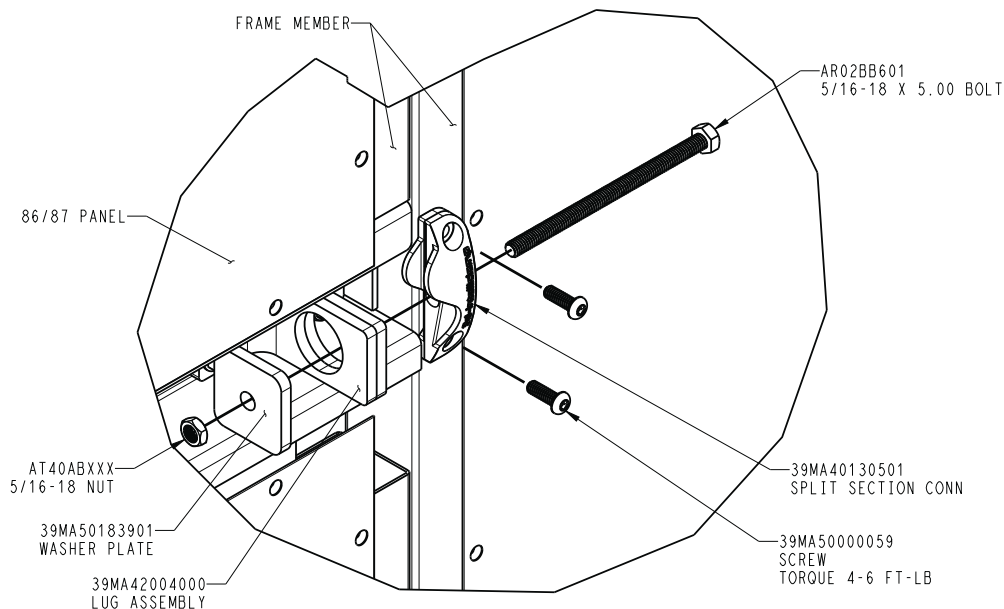

Fig. 173 — Secure ERV Wheel on 3 in. Baserail
9. Secure the ERV wheel section 3 in. baserail to the return air module frame Intelliclamp connector as shown in Fig. 173.
12. Secure the upper ERV wheel bypass section 3 in. base rail to the return air module frame Intelliclamp connector as shown in Fig. 173.
14. Secure the ERV wheel section 3 in. baserail to the exhaust air module frame Intelliclamp connector as shown in Fig. 173.
17. Secure the ERV wheel section 3 in. baserail to the outside air module frame Intelliclamp connector as shown in Fig. 173.